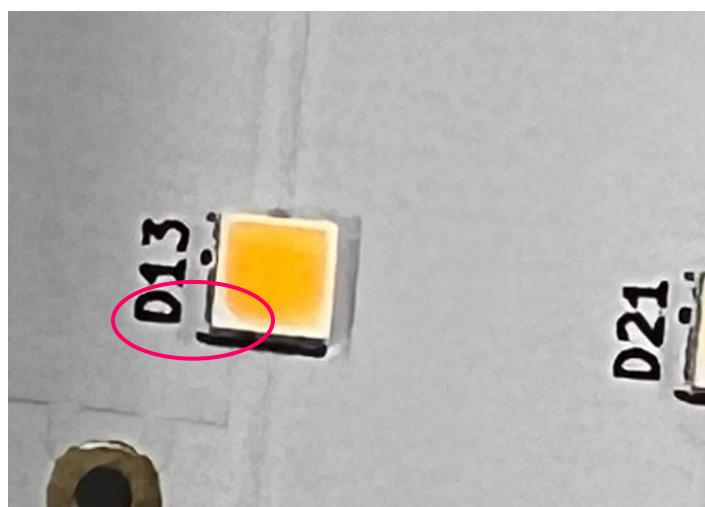

Figure 2: The polarity of the LEDs on the board. Note the white tab, which marks the cathode.
2. Carefully place the LEDs on the footprints (marked D1-D64 on the board). The corner with the white triangle tab indicates the cathode of the LED and should be aligned with the bottom-left corner, next the “D” mark, and towards the resistor footprints. See Figure 2 for reference.